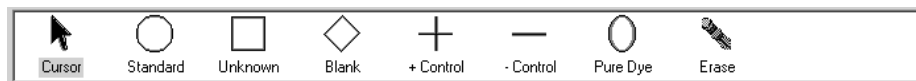

Fig. 5.13. Sample icons.
The toolbar menu contains the following icons that may be used to identify the types of samples in each well of the Plate Layout (see Figure 5.13).
2. Select an **Icon** from the Toolbar menu to activate it (Figure 5.13); the icon will appear highlighted.